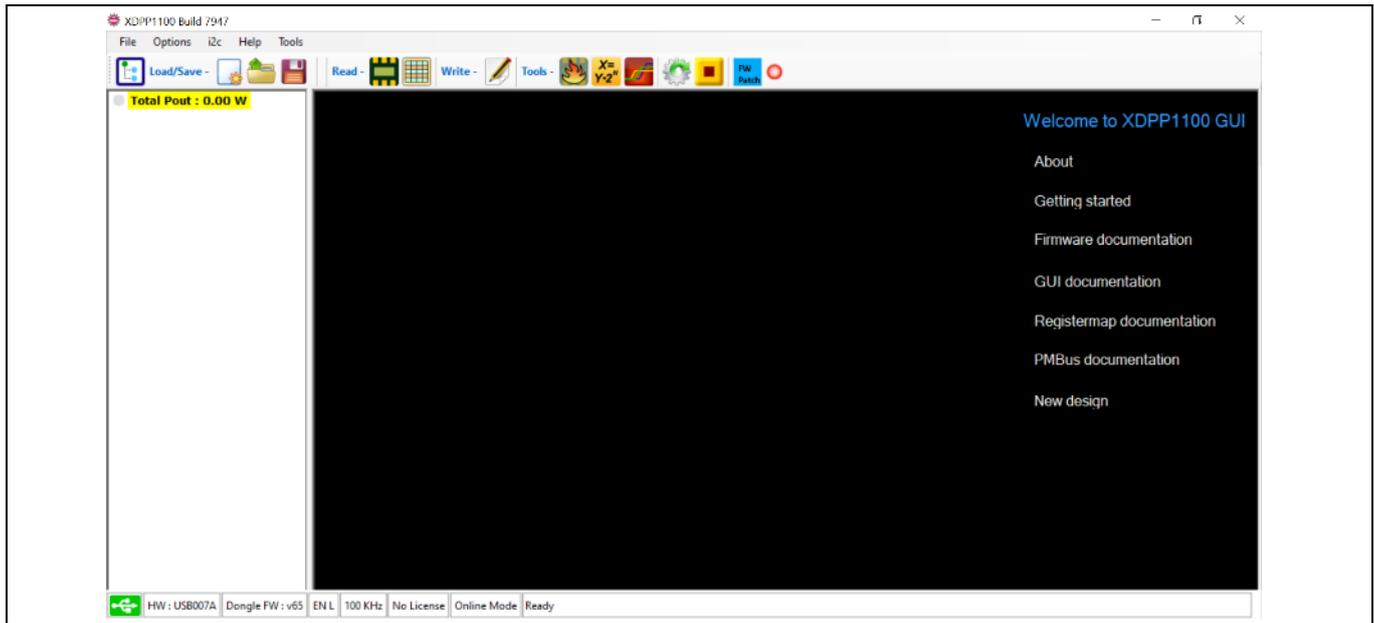

Figure 7 The XDPP1100 GUI starting window
- 5) Run the **XDPP1100GUI.exe**. The GUI starting window is shown in **Figure 7**.